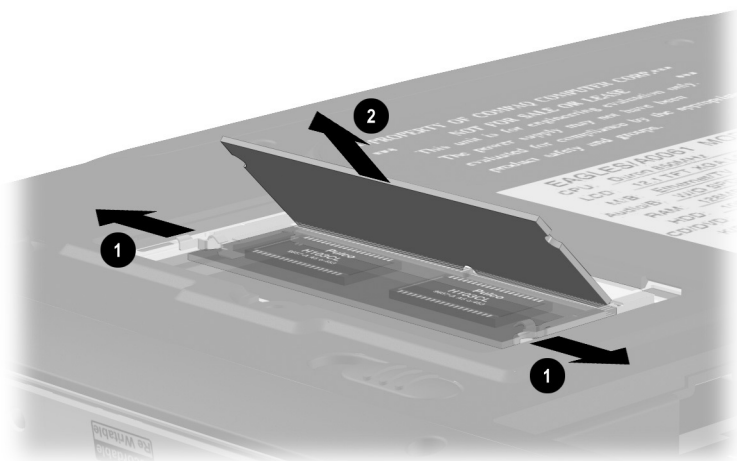

Figure 5-10. Removing a Memory Expansion Board
6. Spread the memory expansion slot retaining tabs to release the memory expansion board ❶. The board tilts up at a 45-degree angle (Figure 5-10).
7. Remove the board by pulling it away from the connector at a 45-degree angle ❷.